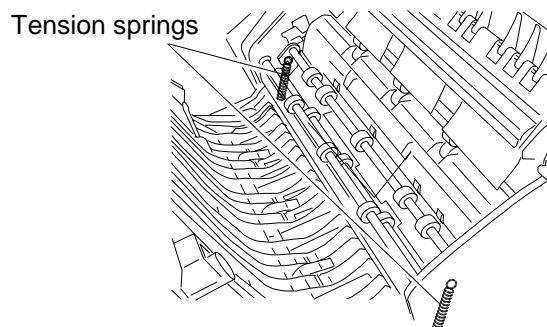

Fig. 17
- 17) Hook the 2 tension springs back onto the spring hooks. (Fig. 17)